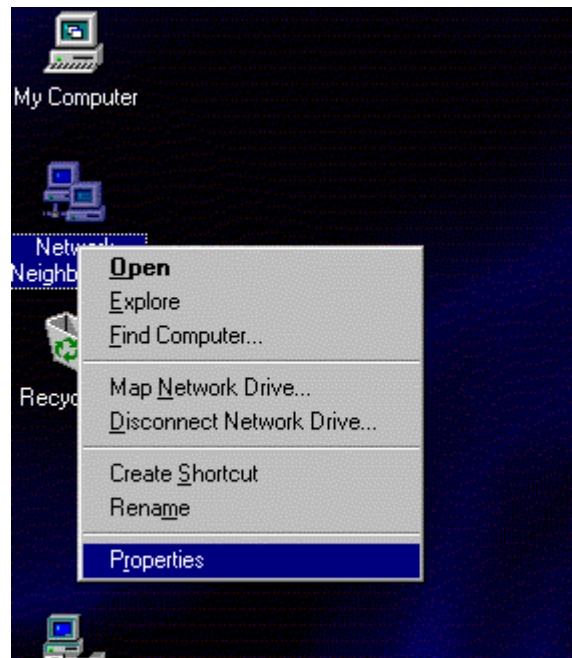

Fig. 8-1 Properties
- ▶ In the dialog box displayed (Fig. 8-1), select "Properties".